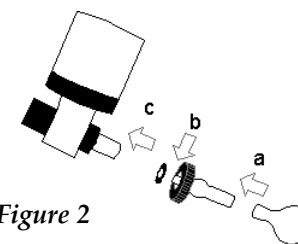

Figure 2
2. Put the connector (white Teflon piece) into the fixed evaporating system by introducing the narrower part of the connector inside the system. Screw the metal ring and the black piece of the piece to fix the evaporating flask, in the ground joint adapter neck. Finally, join this set with the white Teflon piece previously inserted into the system and use the black piece to fix all the components (see figure 2).